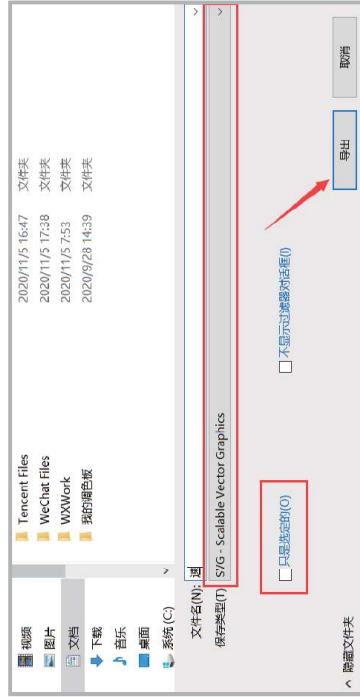

Figure1-11
2. Export file → format as SVG file → uncheck the selected item, as shown in Figure 1-11 below;